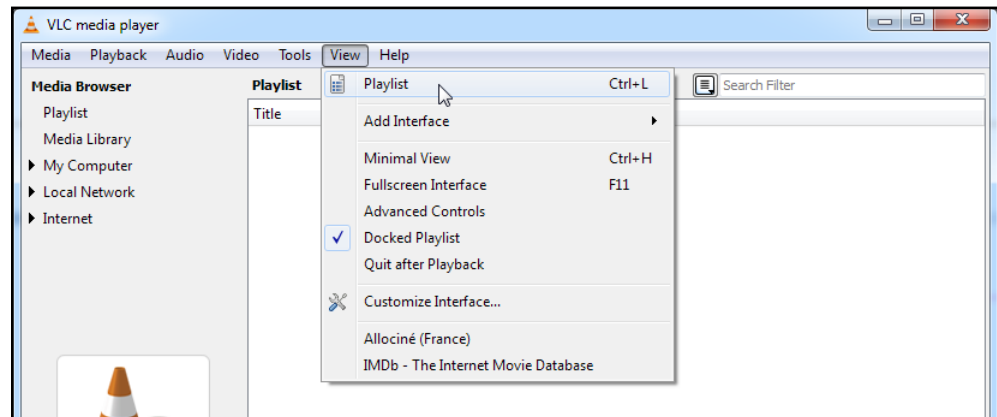

Figure 81. VLC Playlist
1. Open VLC. From the **View** menu, select **Playlist** (see figure 81).